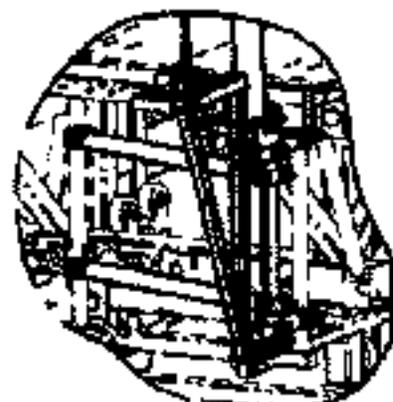

Fig. 3-85 Building crane - detail A (tensioning cable)
- 5 Lift up the crane jib and attach the bottom side of the tensioning cable to the frame (fig. 3-85).